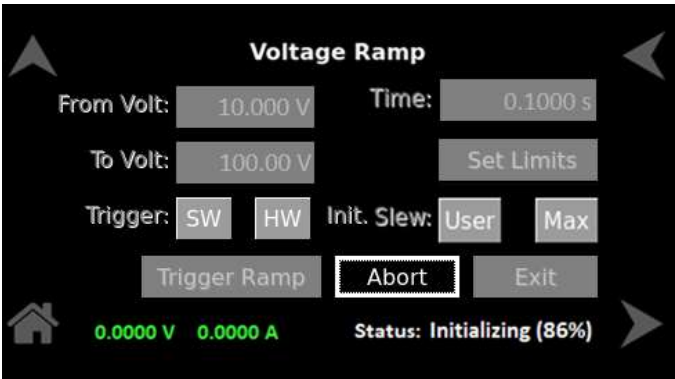

Figure 8-60. Status – Initializing
- c) **Initializing** - When the system is initializing (configuring the current device voltage value to the 'From Volt' value programmed in the ramp screen), and the progress is displayed as a percentage. Refer to Figure 8-60.